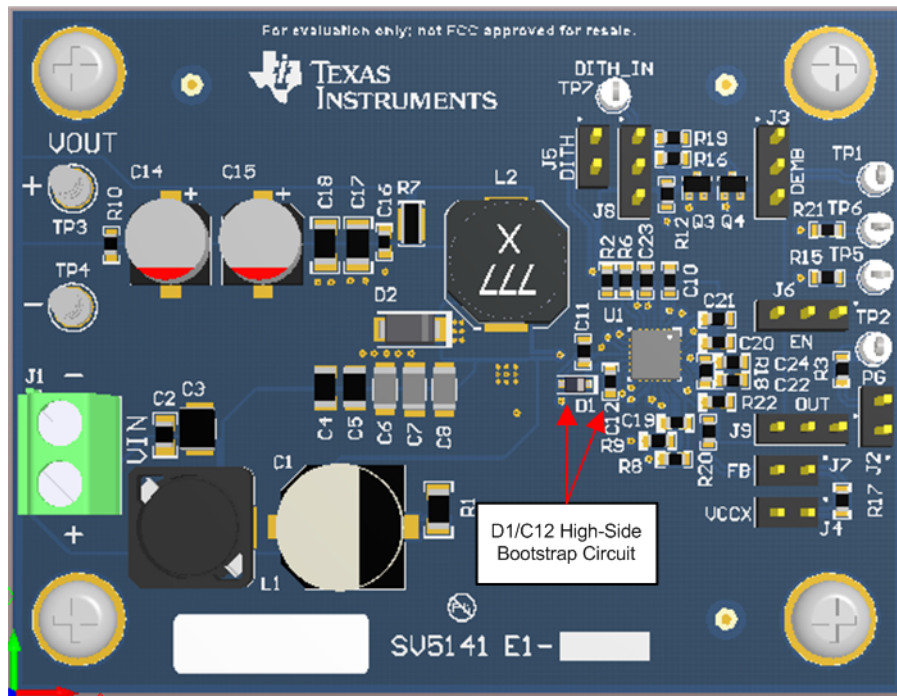

Figure 38. EVM Top Side
- Locate the gate drive components (D1 and C12) together and near the controller IC; refer to Figure 38. Be aware that peak gate drive currents can be as high as 4 A. Average current up to 75 mA can flow from the VCC pin to the V_{CC} capacitor through the bootstrap diode to the bootstrap capacitor. Size the traces accordingly.